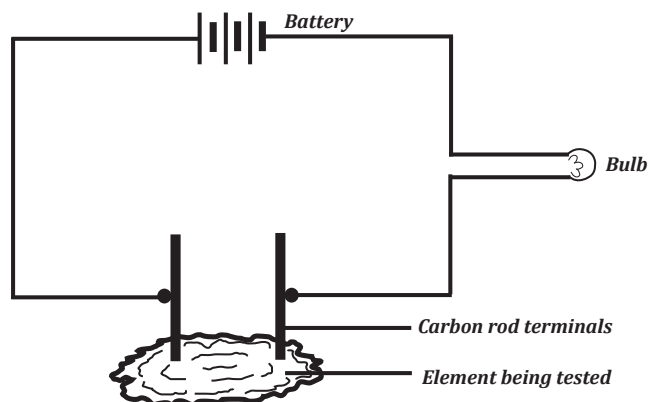

Figure 6.2; electrical circuit for testing elements
2. Connect the terminals as shown in figure 6.2